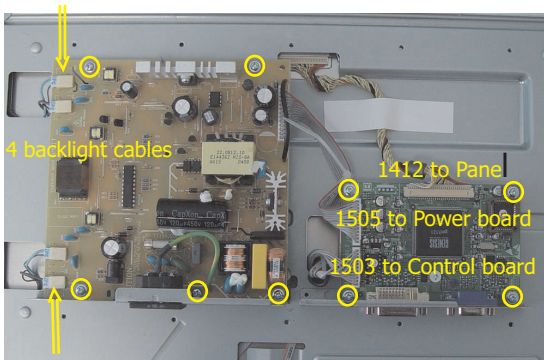

Fig.13
- RemoveDisconnect the 1503,1505,1412 and 4 backlight cables as shown in Fig.13